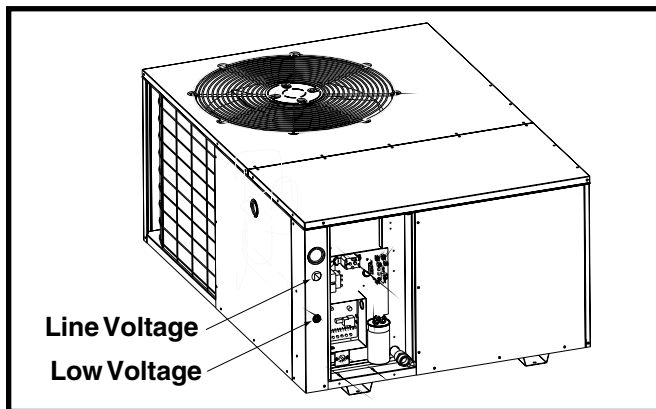

Figure 7. Power Entry
- Provide power supply for the unit in accordance with the unit wiring diagram, and the unit rating plate. Connect the line-voltage leads to the terminals on the contactor inside the control compartment. Extend leads through power wiring hole (Figure 7). Connect L1 & L2 directly to the contactor.
- The low voltage wires must be properly connected. Route 24V control wires through the sealing grommet near the power entrance. See Figure 7 (page 7). Recommended wire gauge and wire lengths for typical thermostat connections are listed in Table 2, (page 9).